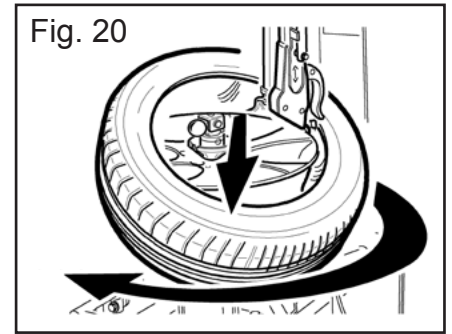

Fig. 20
-Position the tyre horizontally on the rim, slightly tilted downwards in the “5 o'clock” position (fig. 20).